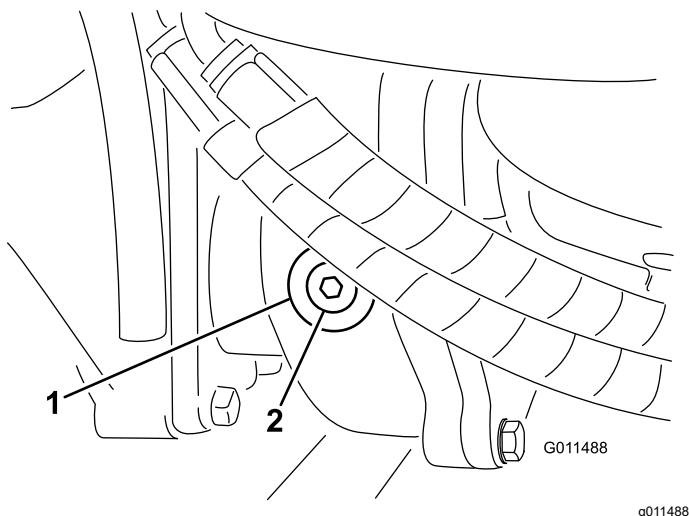

Figure 108
2. Remove the check/fill plug from the left side of the gearbox and ensure that lubricant is up to the bottom of the hole (**Figure 108**).